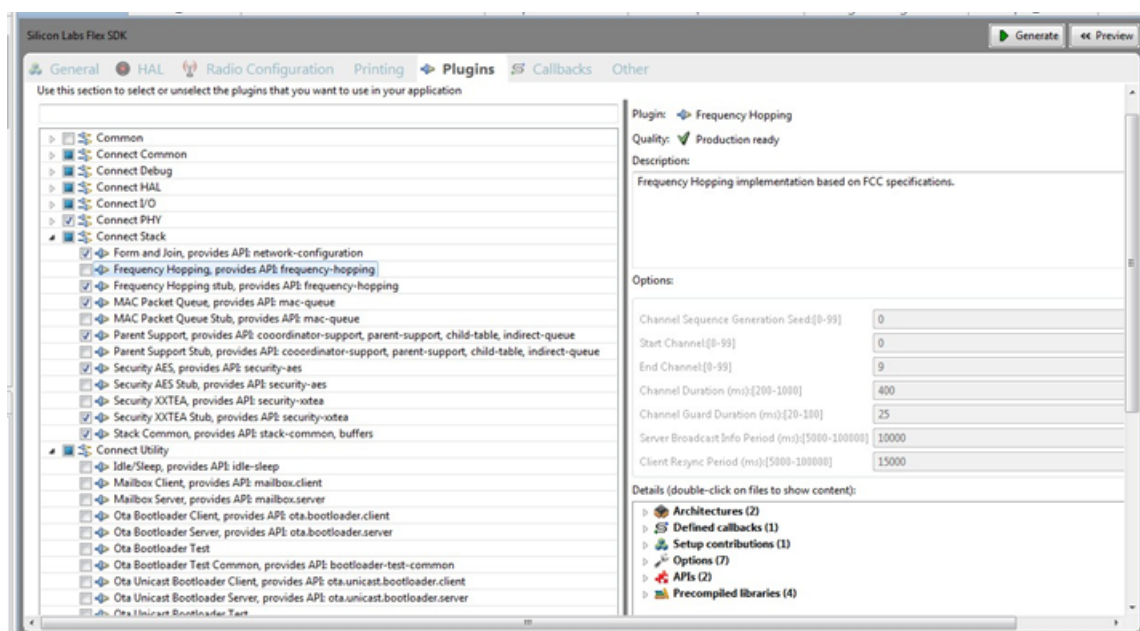

Figure 4.4. Frequency Hopping Plugin
- **Channel Guard Duration:** How long in milliseconds the nodes will wait when entering and leaving a channel 'slot'. The channel guard duration provides time in which transmission is not allowed. Packets transmitted during this time will wait until the guard duration is over. Using the parameters in Figure 4.4 Frequency Hopping Plugin on page 11, a node changes channels, waits 25ms, transmits for 350ms, waits 25ms, and then changes channels again.